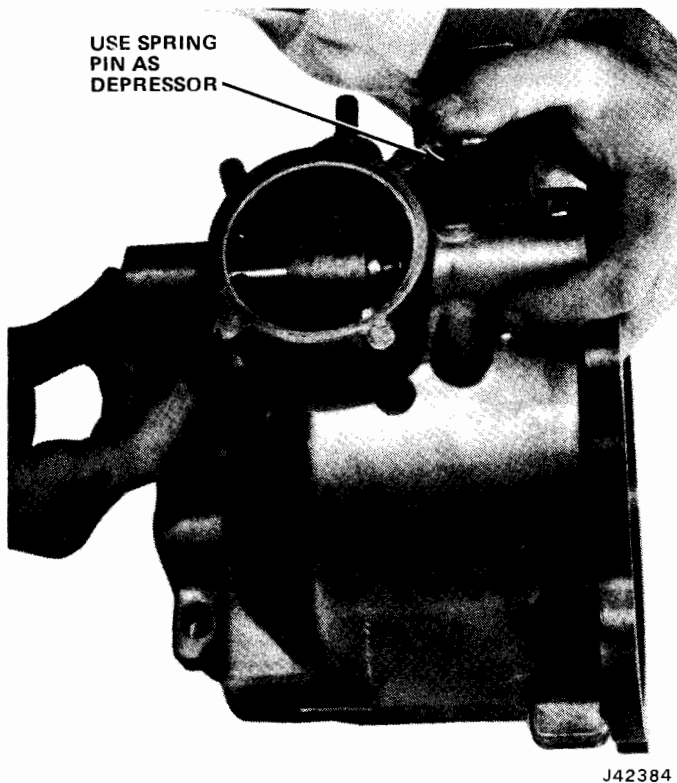

Fig. 8-35 Installing Shift Rail and Poppet
- (6) Move shift lever assembly inward just far enough to allow installation of shaft locating taper pin.
- (7) Install taper pin.
- (8) Insert shift rail, grooved end first, into shift rail rear bore in case.
- (9) Rotate rail so flat side will be adjacent to poppet spring.
- (10) Slide rail far enough to allow shift fork to be meshed with shift lever assembly and on rail.
- (11) Move rail through shift fork until end of rail is even with edge of poppet bore.
- (12) Place poppet ball on end of spring.
- (13) Use spring pin as tool to depress poppet ball (fig. 8-35).
- (14) Slide shift rail over poppet ball as far as spring pin will allow.
- (15) Remove spring pin and slide shift rail to first detent position.